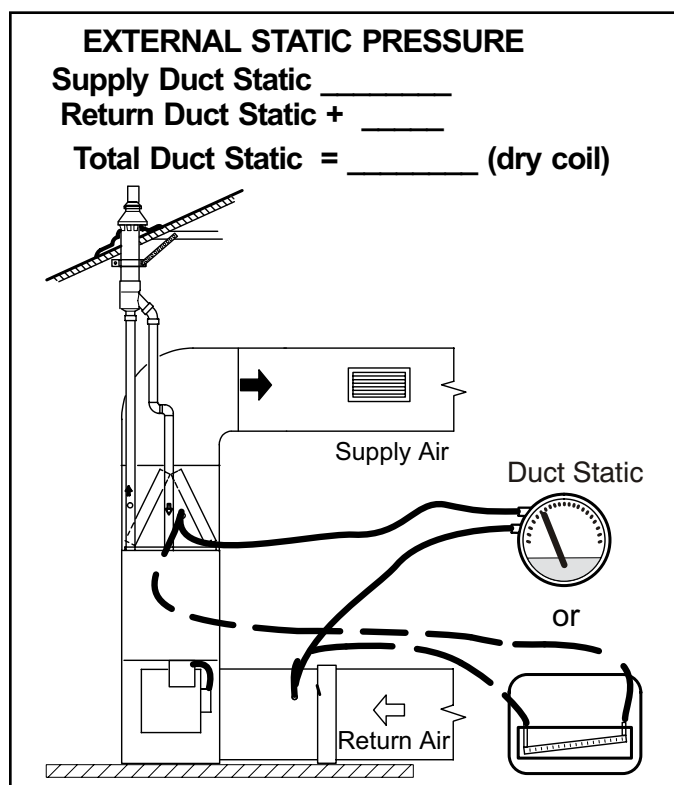

FIGURE 63
- 1 - Tap locations shown in FIGURE 63.